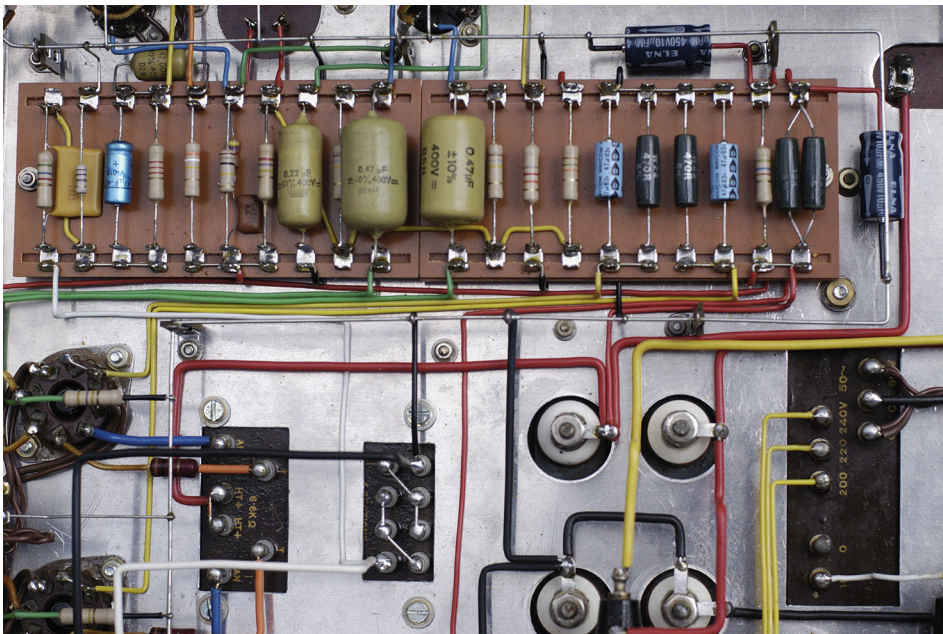

Figure 3.41
2. Position the components in a regimented manner in neat lines, and either use exposed neat wiring (Mullard recommendations) to make the interconnections between components, or use less tidy but hidden wiring arranged for lower capacitance (Leak and Tektronix). These techniques reduce capacitances compared to method 1, but can take up significant space. See Figures 3.41 and 3.42.